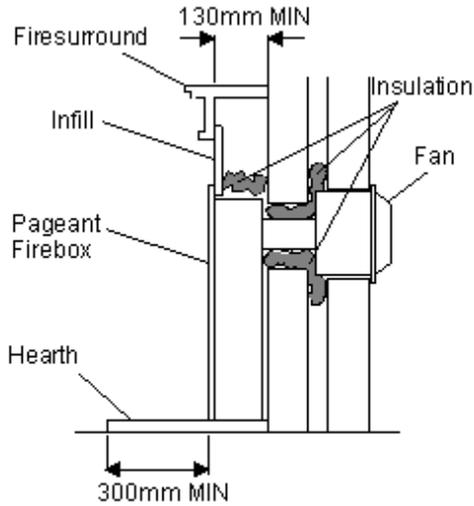
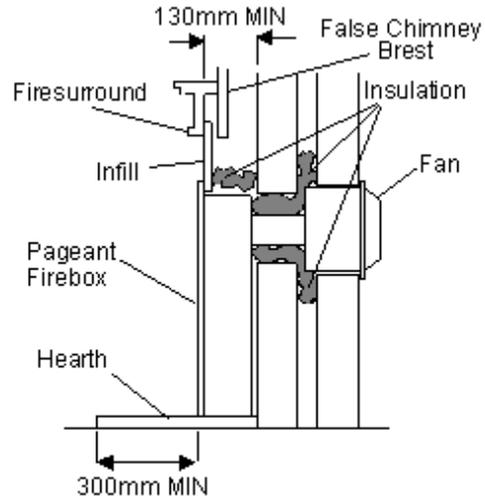

FIGURE 2
FIGURE 3
- Note:** For surface fitting of the Fanfare the fire surround must have a minimum rebate of 130mm (See Figure 2). Alternatively the depth of the firebox can be accommodated within a false chimney breast (See Figure 3).
IMPORTANT: When installed on the surface the void above the firebox must be insulated to prevent heat travelling up the rear of the fire surround (See Figures 2 & 3).